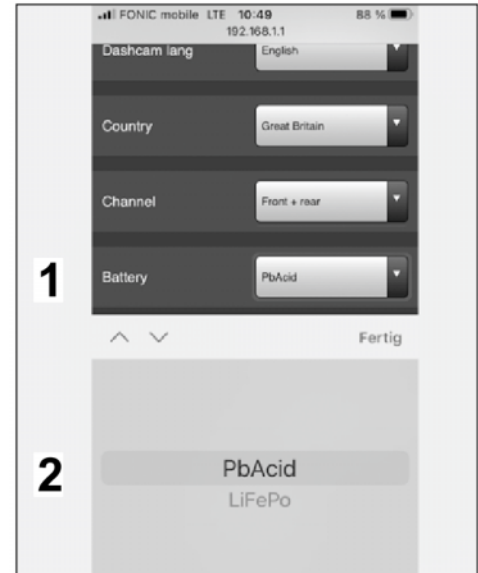

Figure 22
- 5.3.4 Select the battery type (⇒ *Figure 22*)